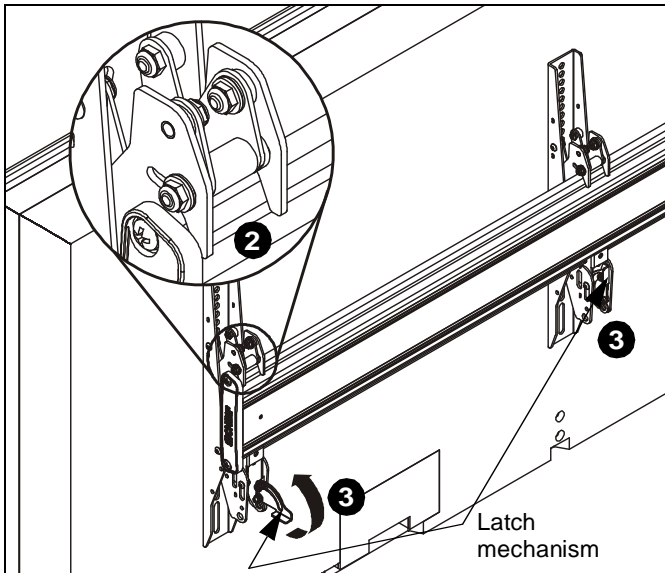

Figure 22
2. While supporting both sides of display, lower display onto one side of mounting rail, hooking top of interface brackets onto front of mounting rail. (See Figure 22)
3. Raise the latch mechanism on both interface brackets to lock bracket in place. (See Figure 22)
6. While supporting both sides of each remaining display, lower display onto mounting rail, hooking top of interface brackets onto front of mounting rail. (See Figure 22)